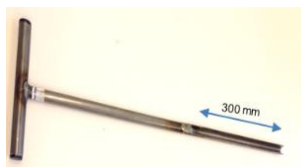

Figure 2: gouge auger
- Use a gouge auger which can sample to the recommended depth of 30 cm (see figure 2)